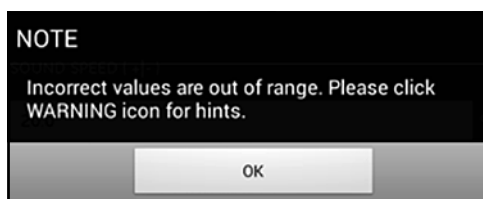

Figure 133: Out of Limits Message
7. There is an acceptable range for each of the parameters entered in this menu. If you enter a value outside of these limits a message similar to Figure 133 below is displayed.